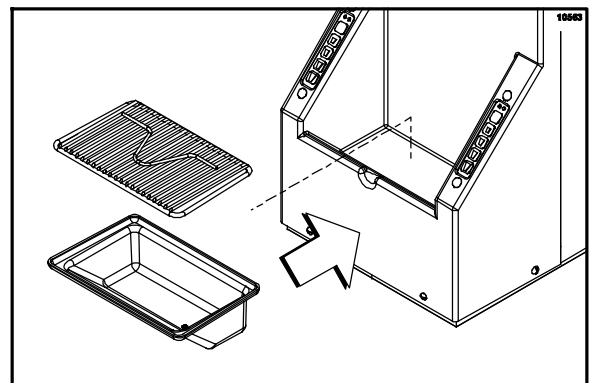

Figure 5
2. Install the drip tray and the splash shield. (See Figure 5.) **Note: This is not a drain.**